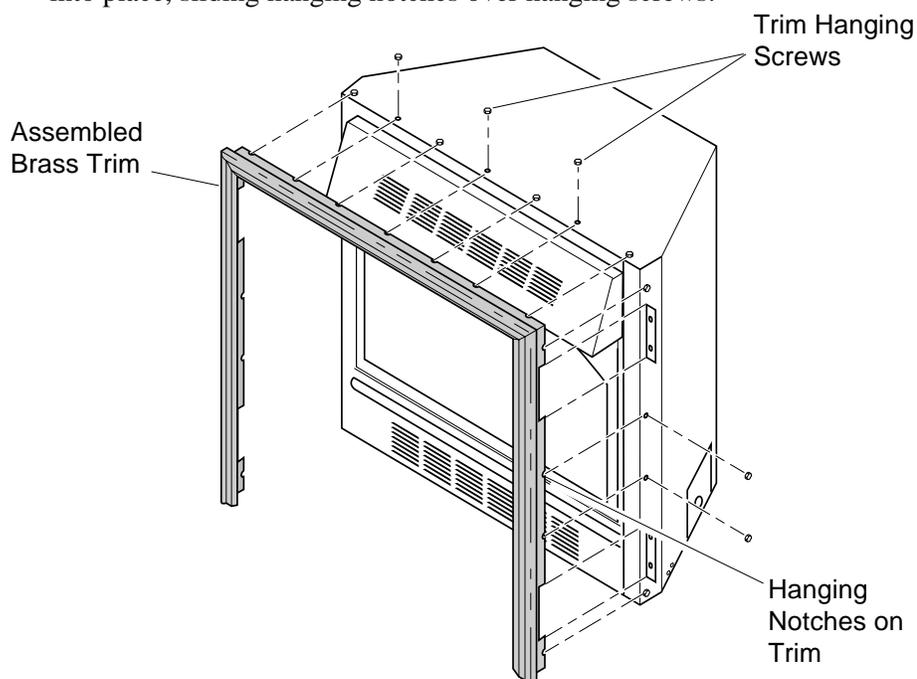

Figure 6 - Attaching Brass Trim to Fireplace
8. Tighten trim hanging screws (#10 x 6.25 shoulder) into holes in cabinets. Place the assembled trim onto fireplace cabinet. Align hanging notches on trim with hanging screws on side of fireplace (see Figure 6). Push trim firmly into place, sliding hanging notches over hanging screws.
9. Install brass trim after final finishing and/or painting of wall (see Figure 6, page 10).